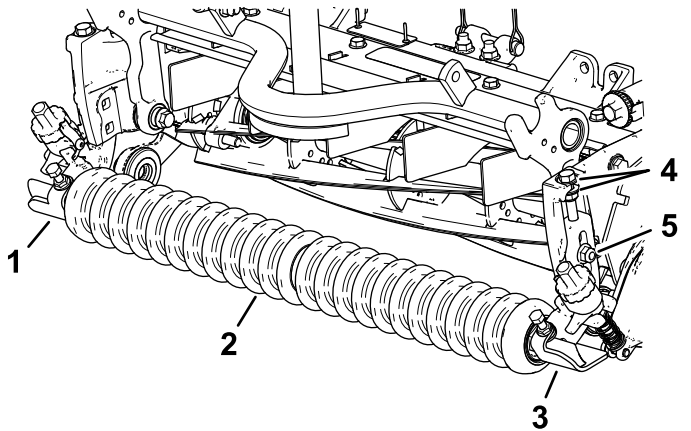

Figure 10
- Loosely install the left and right HOC bracket assemblies and the front roller assembly to the cutting-unit side plates using the previously removed carriage bolts (Figure 10).